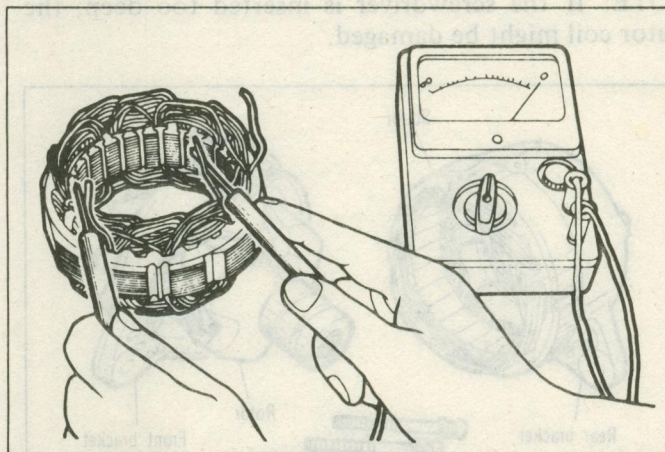

Fig. 56 Stator Coil Continuity Test
(1) Check for continuity between the leads of the stator coil. If there is no continuity, the stator coil is defective. Replace the stator assembly. (Fig. 56)